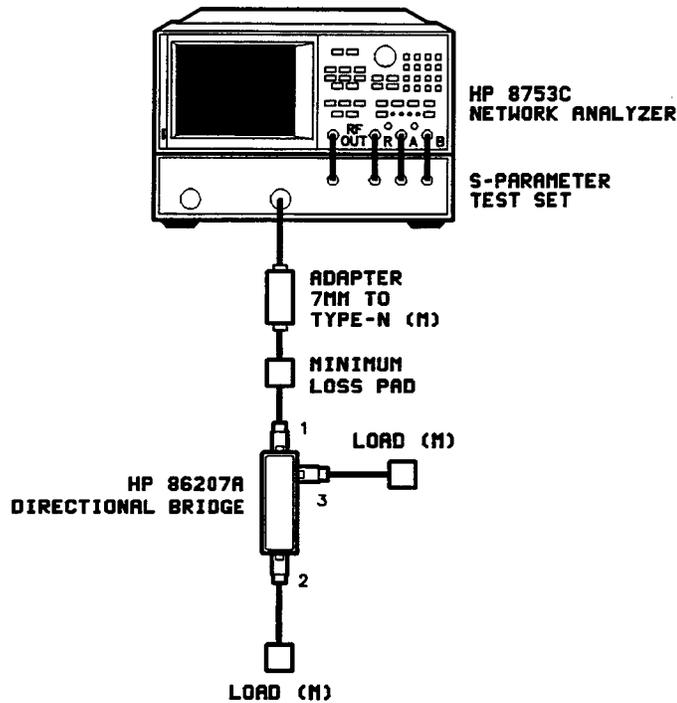

Figure 3-5. Equipment Setup for Return Loss Measurement on Port 1
10. Connect the equipment as shown in Figure 3-5 to measure the return loss.